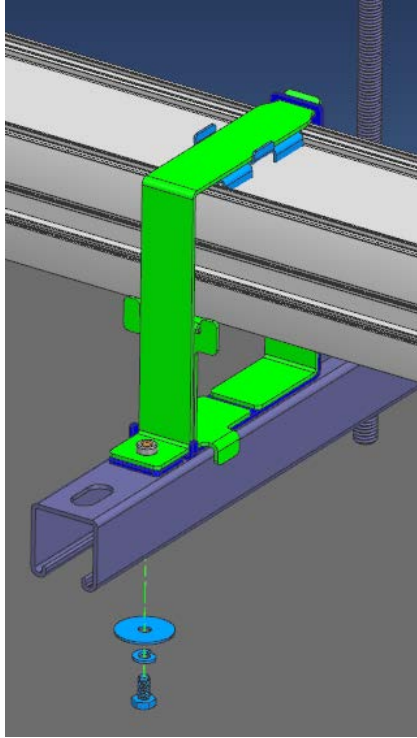

Figure 22 – Install top bracket and secure
5. Insert top brackets into base bracket slots and secure with provided hardware (Figure 22).